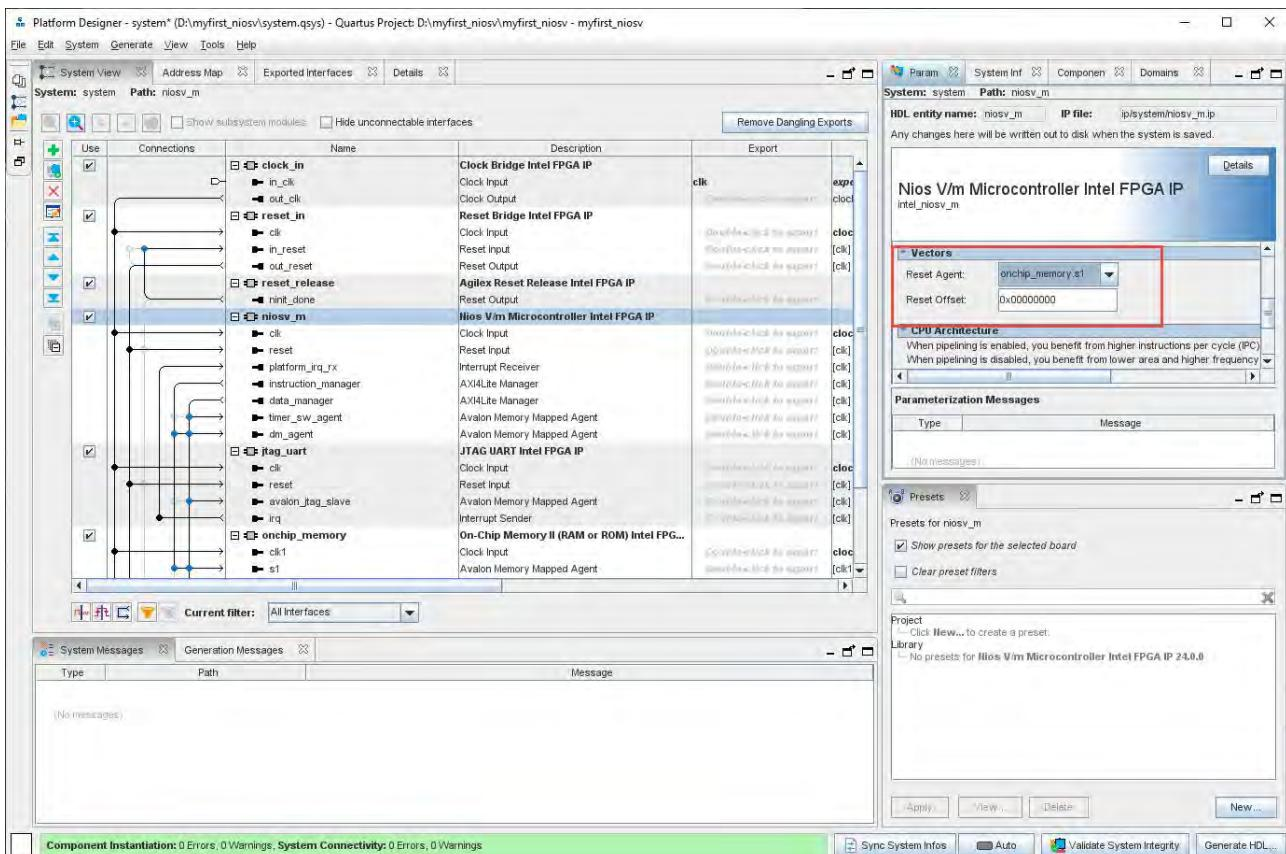

Figure 2-26 Update CPU settings
2. Click **niosv_m** in the component list on the right part to edit the component. Update **Reset Agent** and **Vector Offset** as shown in Figure 2-26.